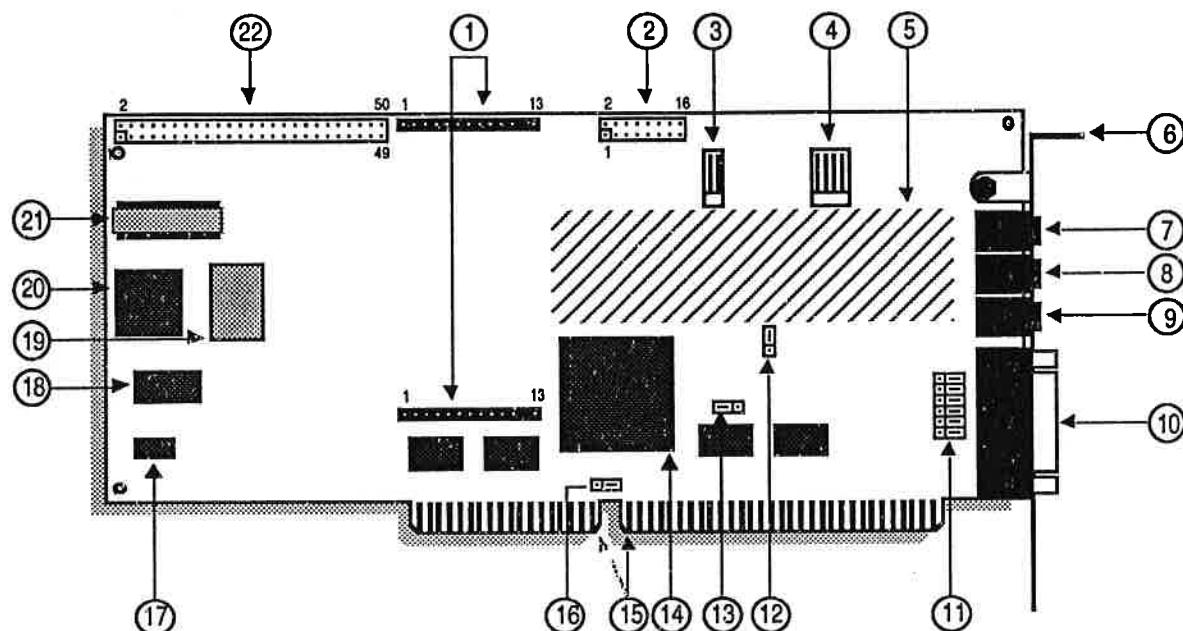

Figure 2: Gold 2000 diagram
- On model Gold 2000, the SCSI port connector (Figure 2: No. 22), to connect a SCSI device, such as a CD-ROM, hard disk or tape backup drive. A 50-pin flat cable is provided for connecting an internal device. Cabling for connecting an external device is optional.
- On model Gold 1000, the SCSI option connectors (Figure 2: No. 20), to snap on a SCSI piggyback board.